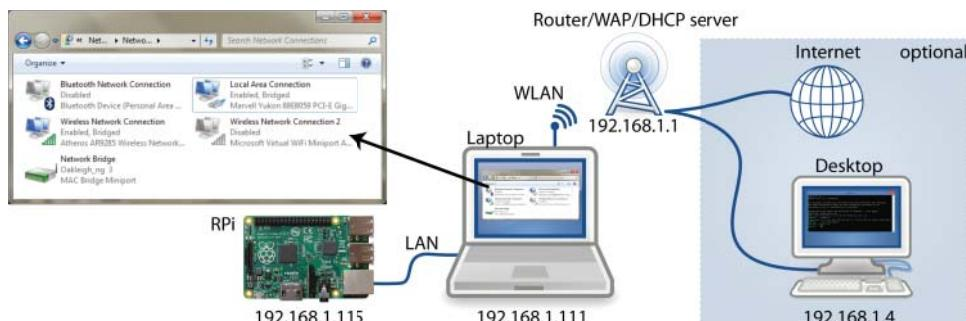

Figure 2-2: An Ethernet crossover cable configuration example
3. Bridge the two network connections. Under Windows, choose Network and Internet Network Connections. Select the two network adapters (wired and wireless) at the same time, right-click, and choose Bridge Connections. After some time, the two connections should appear with the status Enabled, Bridged, and a network bridge should appear, as illustrated in Figure 2-2.
You can then communicate with the RPi directly from anywhere on your network (including the laptop itself) using the steps described in the next section. Figure 2-2 provides a configuration example subsequent to the steps in the following section taking place. As illustrated in the figure, the DHCP server allocates the laptop the IP address 192.168.1.111 and the RPi the IP address 192.168.1.115. Therefore, an SSH session from the desktop machine at IP address 192.168.1.4 to the RPi provides the following interaction: